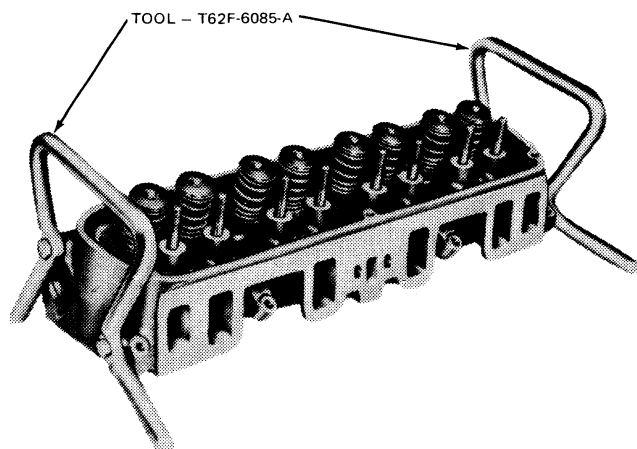

FIG. 23 Cylinder Head Holding Fixtures
7. Install the cylinder head holding fixtures (Fig. 23). Remove the cylinder head attaching bolts and lift the cylinder head off the block. Remove and discard the cylinder head gasket.